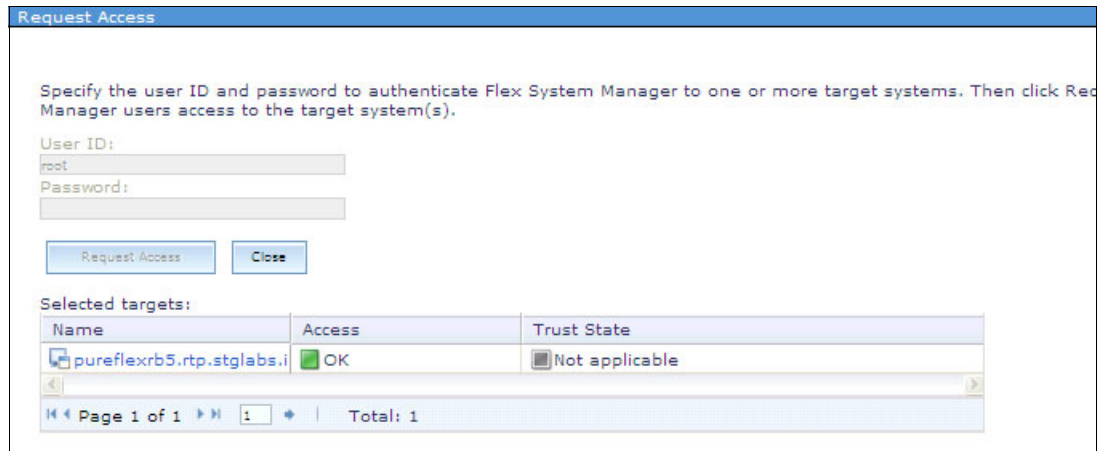

Figure 9-14 KVM host operating system access granted
- Grant access to your KVM host by using root credentials as shown in Figure 9-14, then click your host.